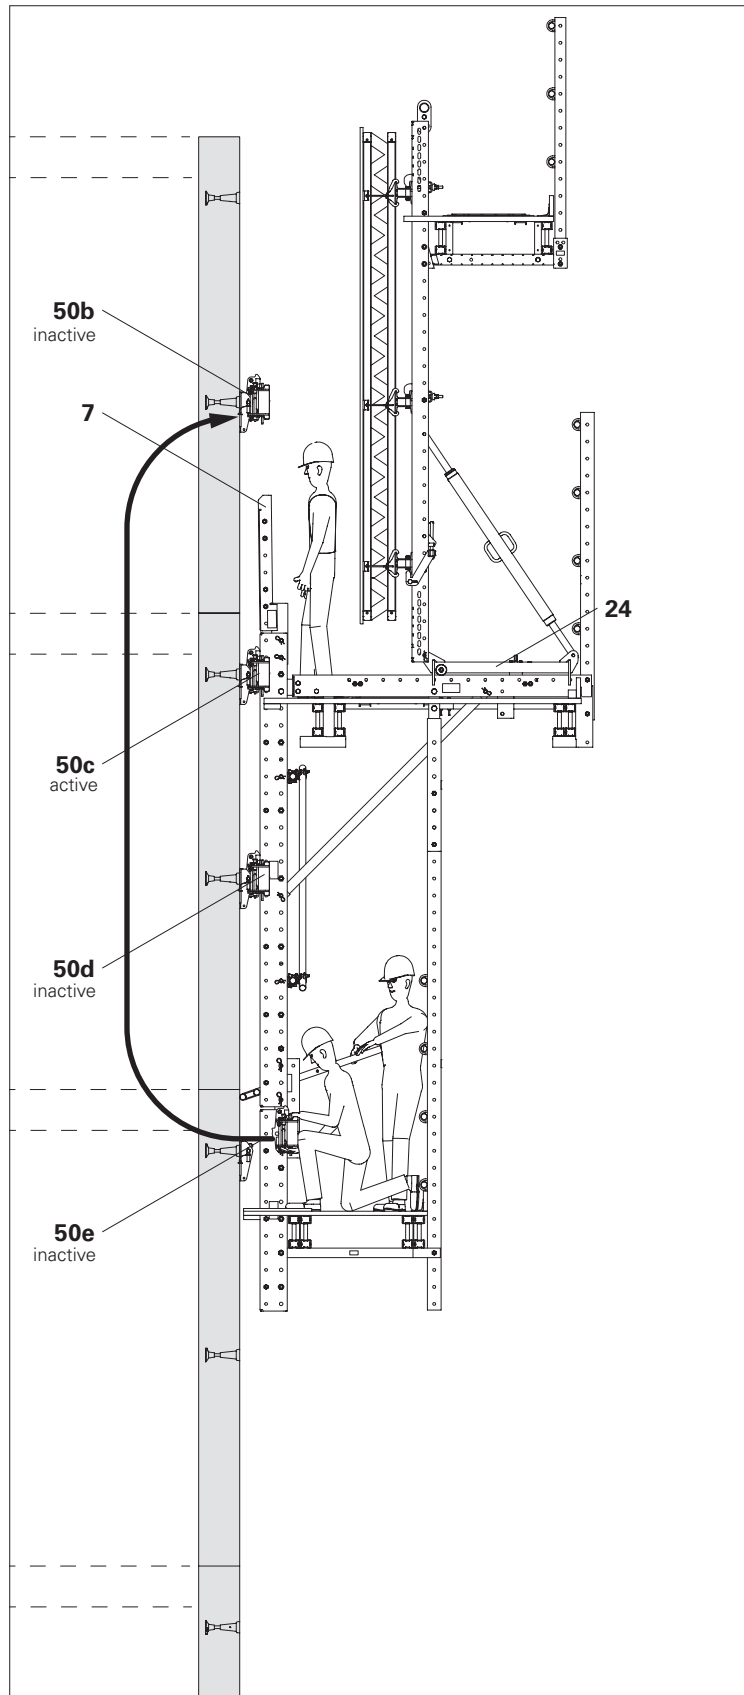

Fig. D6.03
6. Fit the wall and climbing shoes on the new concreting section in advance (**50b**), deactivate the climbing pawls and close the guiding skids. (Fig. D6.03)